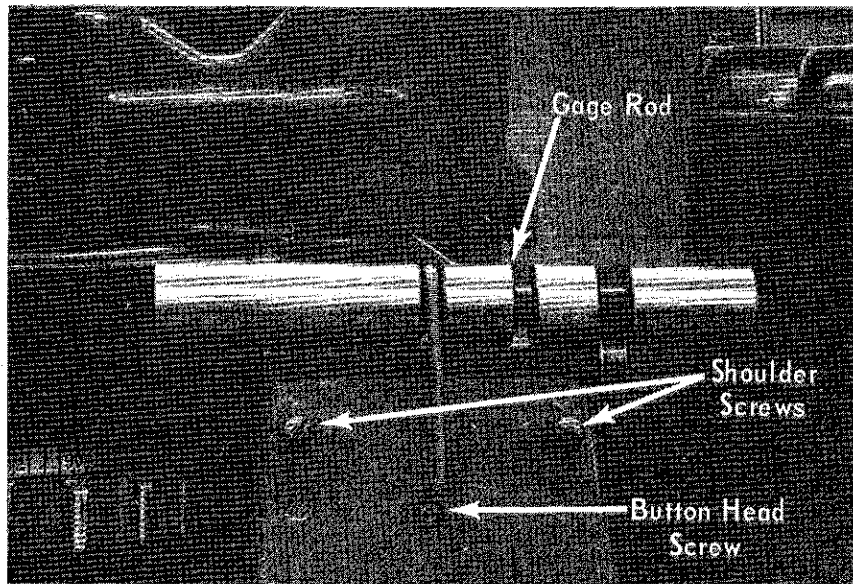

Figure 1
1. Remove **Gage Rod**, two shoulder screws and button head screw holding the spring, as shown. (Figure 1) Keep **Gage Rod** and button head screw for reassembly.